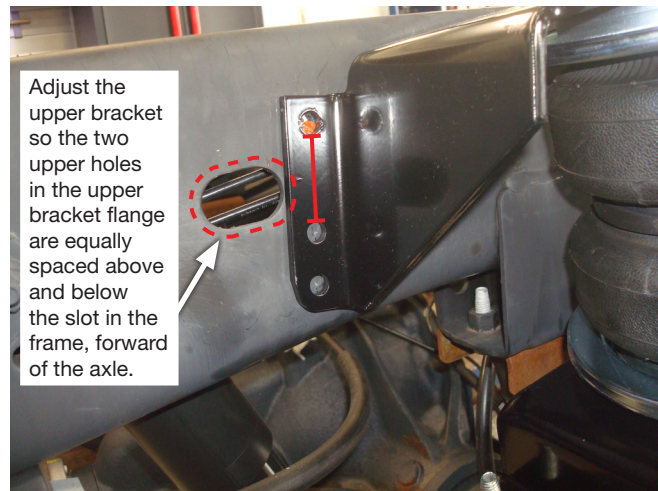

Fig. 11
- Adjust the upper bracket into position on the frame so the top front two holes (forward of the axle) in the flange are equally spaced above and below the large slot in the frame and the lower two holes in the rear of the upper bracket flange are in the middle of the frame (Figs. 11 & 12).